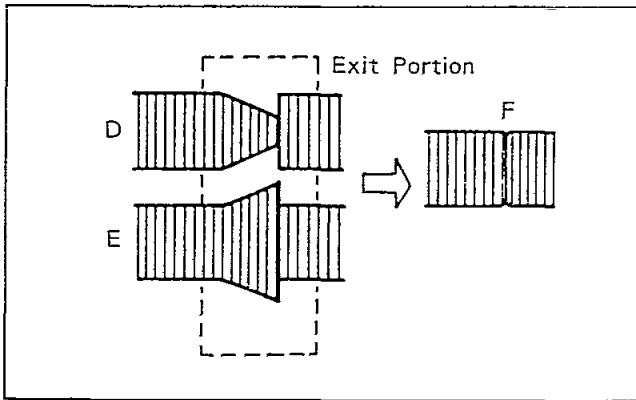

Fig. M9
5. If the RF envelope appears like example "D" or "E" in Fig.M9, then adjustment of the tape guide post (P3:Exit) is necessary.
6. Adjust the tape guide post (P3) in the same manner as the P2 post so that the exit portion becomes flat as shown in Fig.M9--"F".